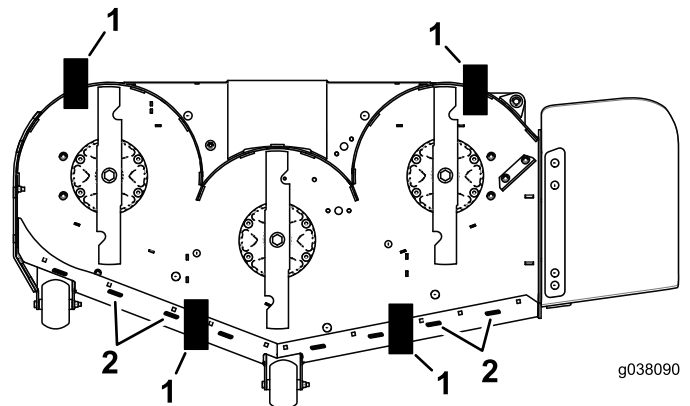

Figure 91
11. Place 2 blocks (see Block Height and Rake Table) under the rear edge of the cutting deck skirt; 1 on each side of the cutting deck (Figure 91).